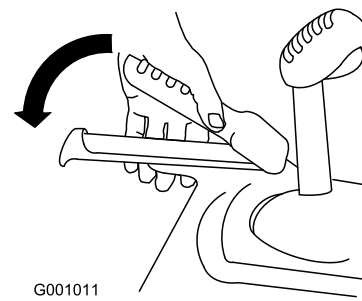

Figure 32
1. To engage the traction drive, squeeze the left hand (traction) lever to the handgrip (Figure 32).